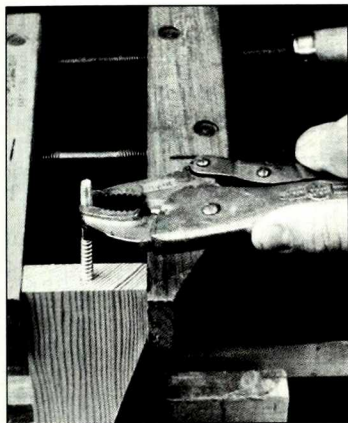
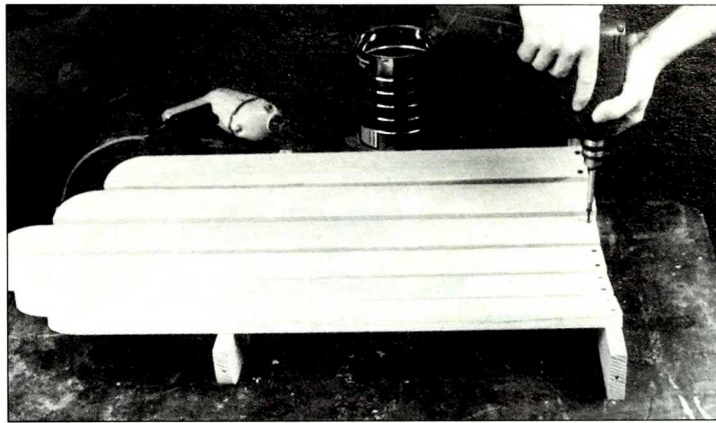
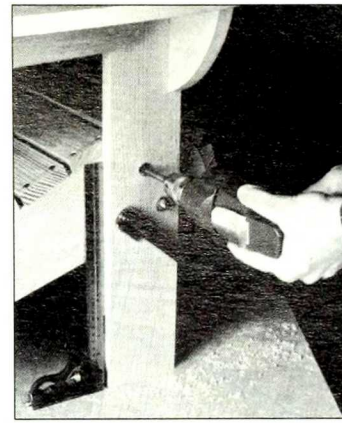

Figure 3: Use clamps to hold the ends of the braces (K, L) when screwing in the hanger bolts. This will keep the wood from splitting.
Figure 4: Screw the back slats to the lower brace first, then attach the middle brace 10¼ inches above it.
Figure 5: Make sure the legs are square to the ground before drilling the bolt holes.
- Screw the hanger bolts into the ends of the braces (K, L). Clamp the boards to prevent the wood from splitting (Figure 3 on page 27).
- Screw the slats (E) to the seat supports (A). Start with the slat farthest back, then do the one at the front. Space out the remaining slats and screw them in place. You may want to file flat surfaces on the curved edge of the seat supports underneath the first few slats.
- Assemble the back. Screw the slats to the bottom brace (L), then attach the middle brace (K) 10 $\frac{1}{4}$ inches above the bottom brace (Figure 4).
- Screw the arms (B) to the arm supports (M), and the arm braces (D) to the legs (C), being sure to leave the braces protruding above the tops of the legs (see the seat leg detail in plan on page 24).
- Bolt the hinge bars (N) to the back assembly (see the plan detail on page 24). Use washers between the wooden pieces.
- Bolt the arm supports (M) to the legs (C) and back, and clamp the legs to the seat assembly. Then screw the hinge bars to the seat supports.
- Adjust the legs (C) so they are square, then drill through the holes in the leg and into the seat supports (A) (Figure 5). The peg must have a firm fit in its hole, so be sure to make a test hole first on scrap. Bolt the legs to the seat, insert the pegs, and screw on the front brace (J).
- Attach the front brace (J) to the legs.